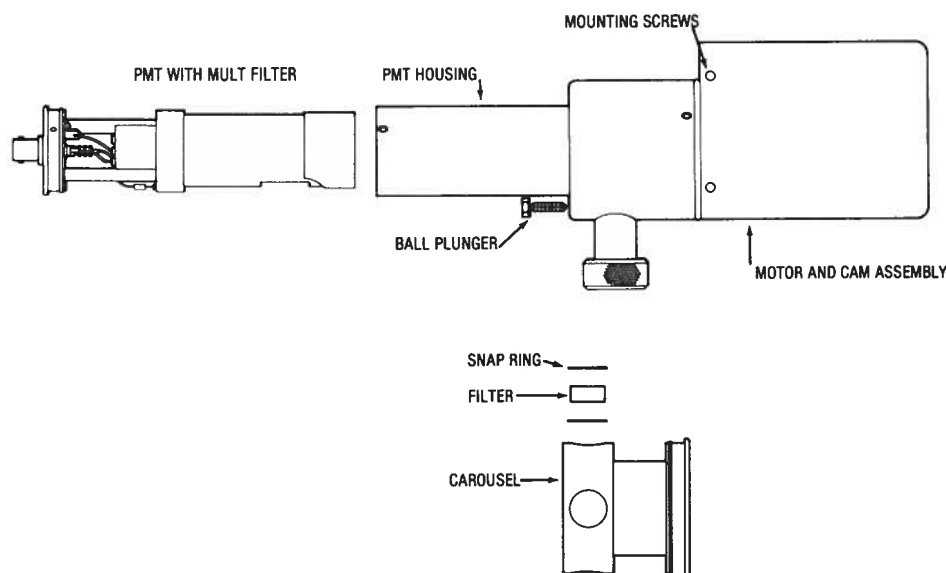

Figure 3.9 Filter Changer Assembly (Side View)
1. Locate and remove the three (3) flat head Phillips screws mounting the PMT housing to the filter changer mechanism assembly (refer to Figure 3.9).